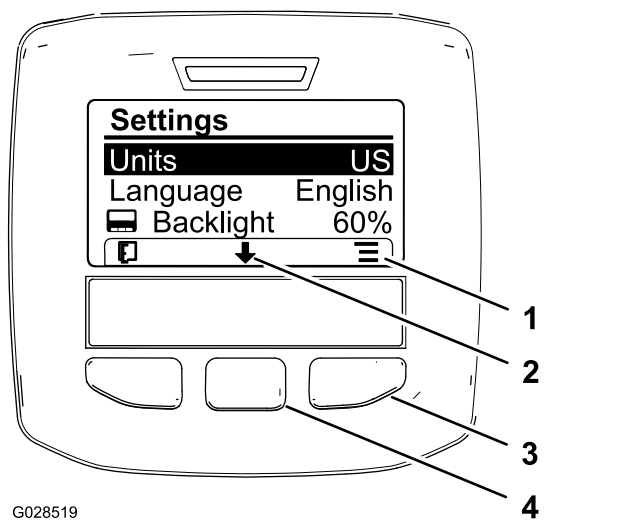

Figure 62
2. To change the unit of measure, press the right selection button to change the listed units of measure (Figure 62).
3. To change the language used in the display, press the center selection button (the button below the down arrow in the display) to move the selected option to Language (Figure 62).
4. Press the right selection button (the button below the list icon in the display) to highlight the listed language used in the display (Figure 62).
6. Press the left selection button to return to the Home screen (Figure 62).